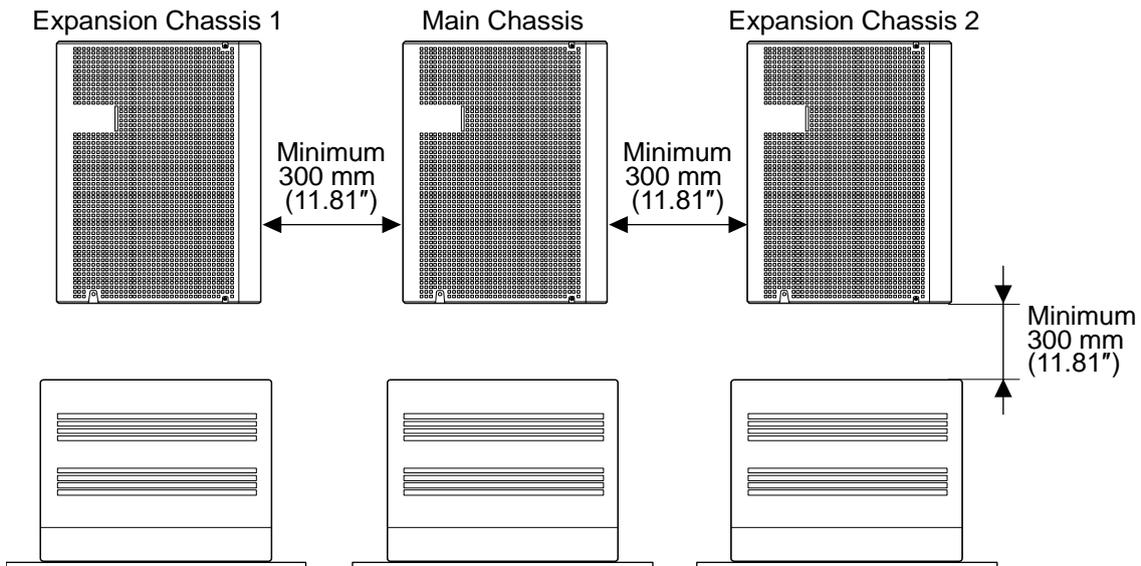

Figure 2-14 Horizontal Arrangement of Chassis and Battery Boxes
For Wall Mounting the Chassis and Floor Mounting the IP4WW-Battery Box, refer to Figure 2-14 Horizontal Arrangement of Chassis and Battery Boxes.
*Due to the limit of extension cable length to connect Main Chassis and Expansion Chassis, the install location of Main Chassis and each Expansion Chassis must be considered as above or as Figure 2-14 Horizontal Arrangement of Chassis and Battery Boxes.*